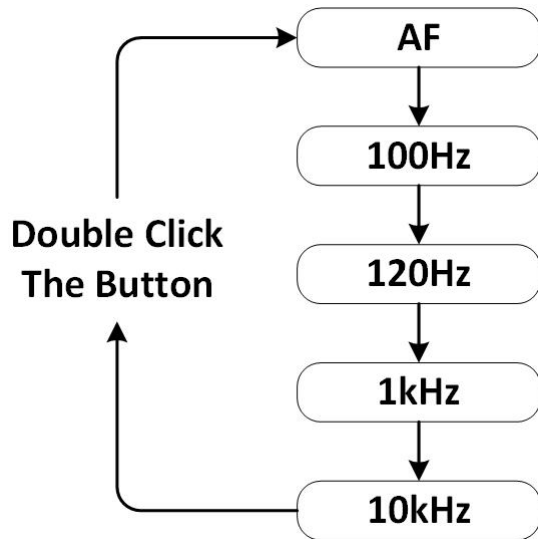

Figure 3-3: Switch Test Frequency by Double Clicking the Navigation Button
- Double click the navigation button to switch test voltage as Figure 3-3 shows.